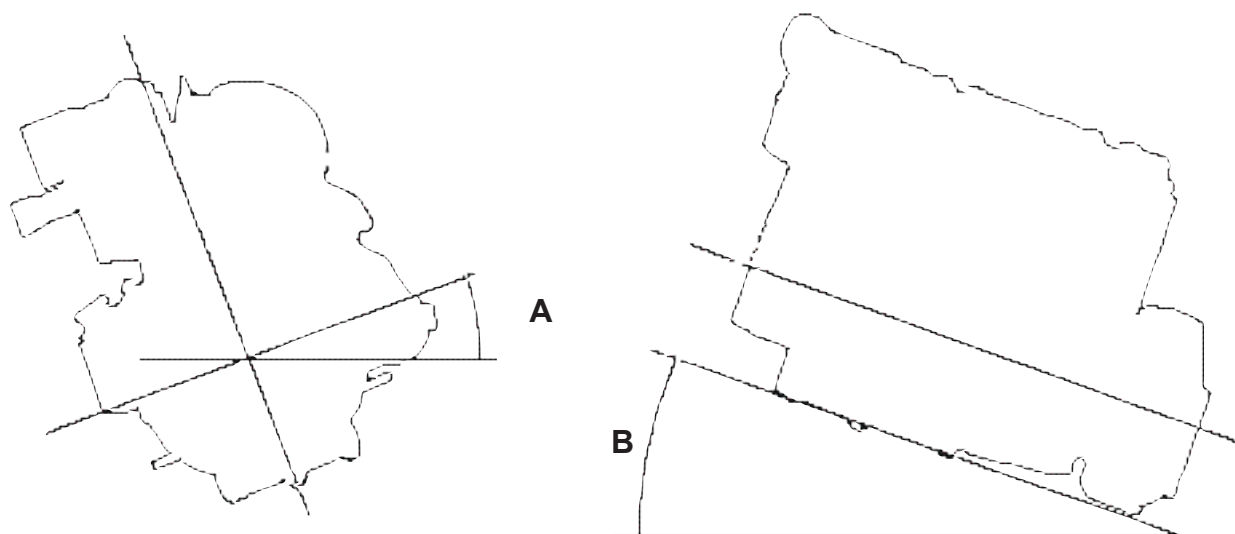

Fig. 2.2
2.1.1 INCLINATION MAX (FIG. 2.2)